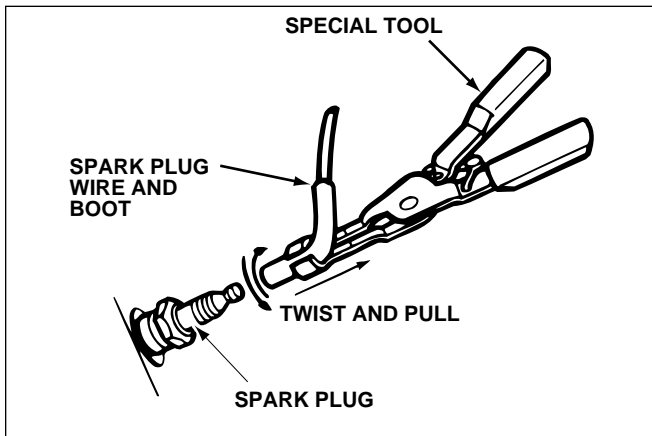

Fig. 5-28. Insulated spark plug cable pliers prevent shock and protect cables.
1. Disconnect cables at the plug by grasping the boot and twisting gently while pulling. Do not pull on the cable. Insulated spark plug pliers will provide a better grip and are recommended when working near hot manifolds, figure 5-28